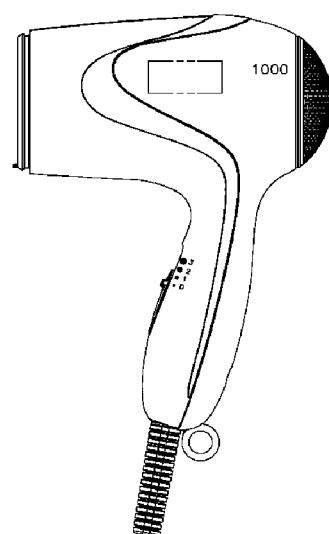

Figure 10
7. Install Main switch plate and Main switch lever with Housing A, then assembly Housing A and Housing B as shown in Figure 10.